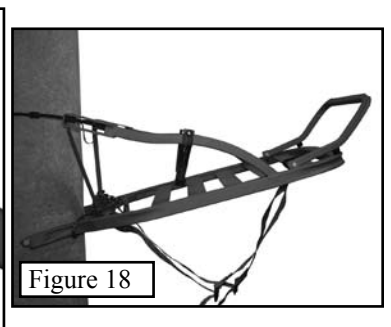
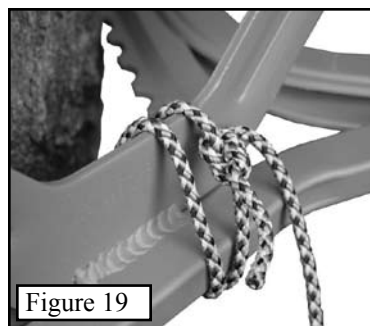

Figure 18
Figure 19
**WARNING:** Usually, the front edge of the treestand (the edge away from the tree) should be 4-6 inches higher than the edge against the tree (See **Figure 18**). The treestand seat climber attaches above the standing platform and should also have the same basic angle as the platform before you start to climb. **WARNING:** The standing platform and climber **MUST BE** attached to each other with the tether rope supplied, as shown in **Figure 19**. Wrap the rope around **TWICE** before tying it off.